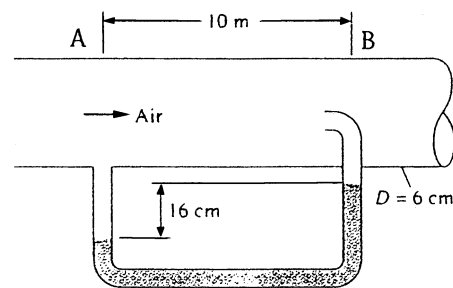

Fig. P6.138
**6.138** An engineer who took college fluid mechanics on a pass-fail basis has placed the static pressure hole far upstream of the stagnation probe, as in Fig. P6.138, thus contaminating the pitot measurement ridiculously with pipe friction losses. If the pipe flow is air at 20°C and 1 atm and the manometer fluid is Meriam red oil (SG = 0.827), estimate the air centerline velocity for the given manometer reading of 16 cm. Assume a smooth-walled tube.